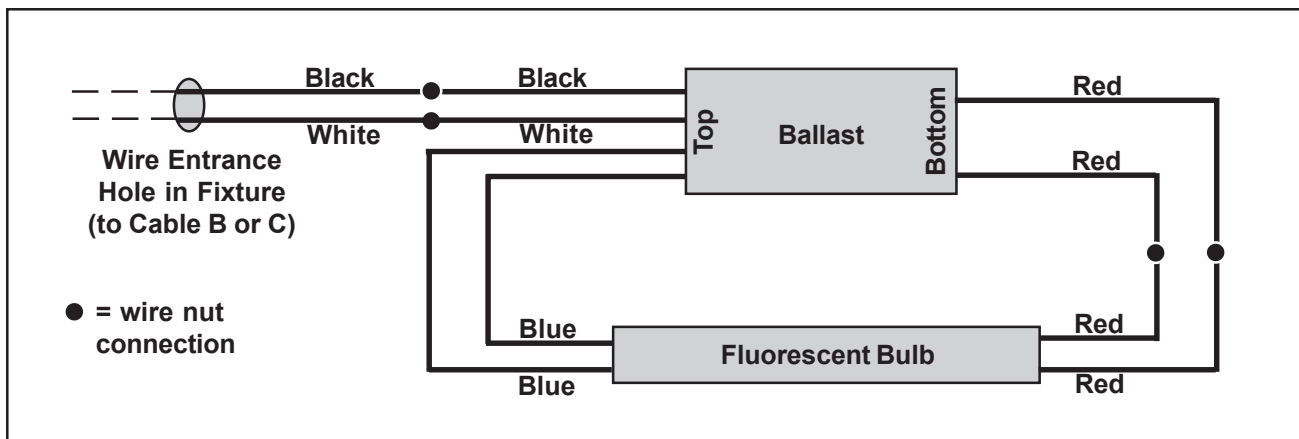

Figure 28. Ballast Wiring Diagram
7. Black and white wires lead out of the top of the ballast (Figure 28). Remove the wire nuts connecting these wires to the black and white wires coming into the fixture from the column (Cable B from the left column; Cable C from the right).
3. Using wire nuts, connect the black and white wires from the ballast to the black and white wires coming into the fixture from the column (Figure 28). Connect black to black, and white to white.